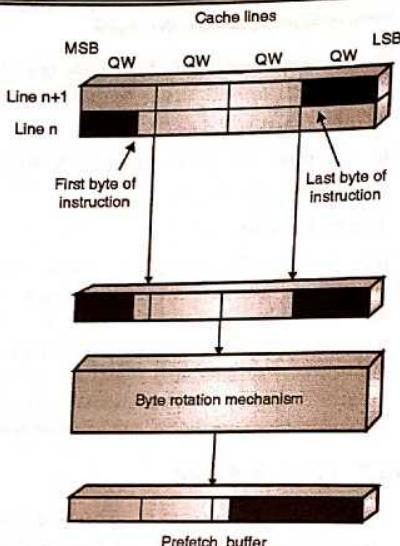

Fig. 13.5.5 : Split line access
5. These bytes of the instruction must be rotated so that the prefetch queue receives the instruction in the proper order. This is done by a byte rotation mechanism as shown in the Fig. 13.5.5.